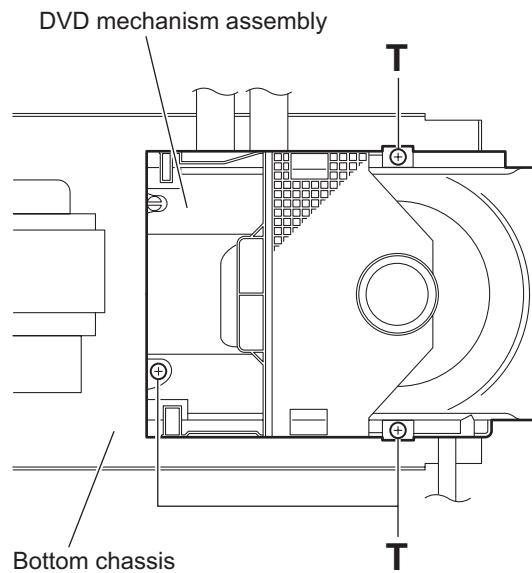

Fig.23
- Remove the three screws **T** attaching the DVD mechanism assembly to the bottom chassis. (See Fig.23.)